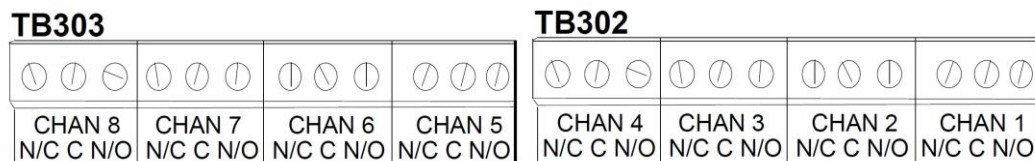

Figure 2-16. TB302 and TB 303 for Wiring Relays to Equipment
10. To connect the relays to your equipment, use connectors TB302 and TB303 (Figure 2-16).